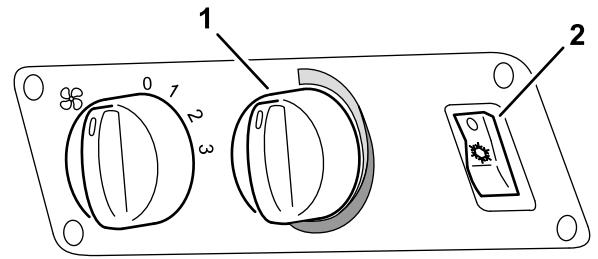

Figure 29
2. Have another person sit in the operator's seat, rotate the temperature control to the cold position, and press the air-conditioner switch to the ON and OFF positions (Figure 29).
4. Press the air-conditioner switch (Figure 29) to the OFF position.